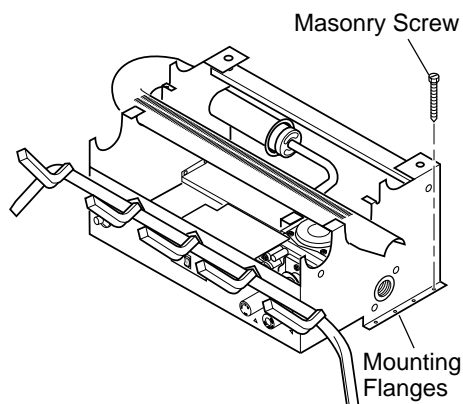

Figure 12 - Attaching Base Assembly to Fireplace Floor
7. Mark screw locations through one hole on each side of the mounting flanges (see Figure 12, page 11). If installing in a brick-bottom fireplace, mark screw